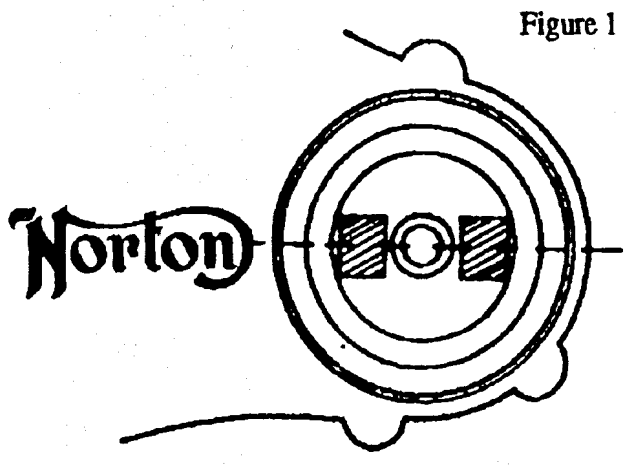

Figure 1
- 6) Fit magnetic rotor unit using one of the bolts (supplied), with the magnets in line with the "NORTON" name on the timing case. See Fig.1.